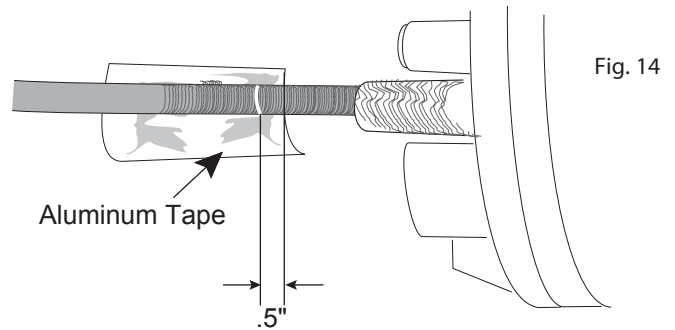

Fig. 14
3. Slide the tubular cable port seal around the port and cable. Be sure that the arrows on the tube point to the base. Squeeze the tube down onto the cable and place a white pencil mark on the cable just beyond the end of the tube. (Figure 14)
5. Line up purple line from the aluminum tape to the white mark on the cable and wrap cable. The aluminum tape should be no more than 1/2" inside the white mark on the cable. (Figure 14)